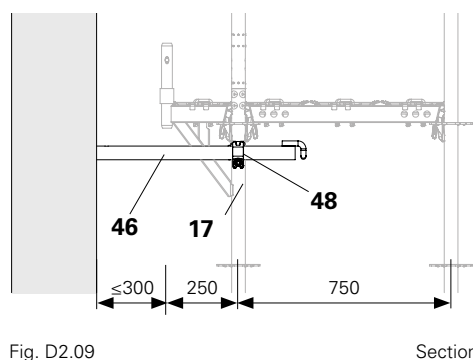

Fig. D2.09
Fasten Wall Tie UWT (46) onto the inner standard (17) with a standard coupler (48). The tube end without a hook is positioned obtusely against the wall. (Fig. D2.09 + D2.10)